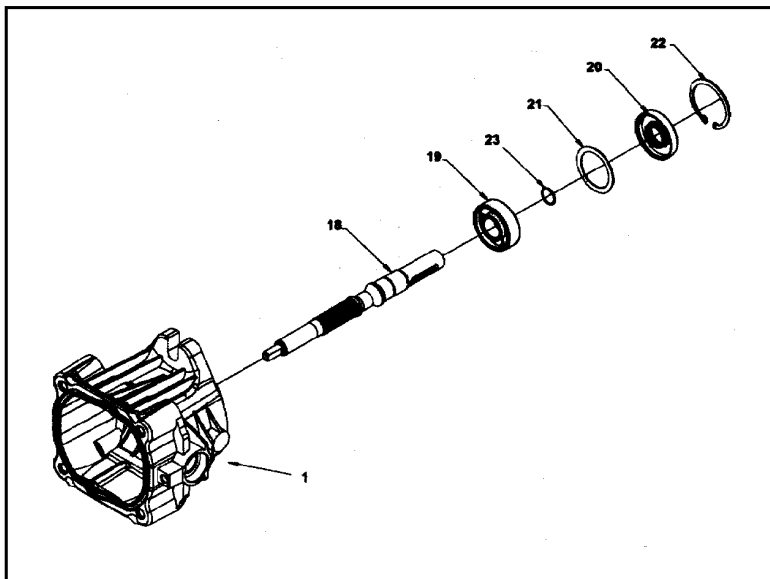

Figure 14
- 1) Install input shaft assembly (18) into the housing (1) bore. Light tapping with a rubber mallet may be necessary on the input shaft (18) once the bearing is aligned with the housing (1) bore. Rotate the input shaft (18) to insure free movement.
- 2) Install spacer (21).
- 3) Install new lip seal (20).
- 4) Install retaining ring (22). **Figure 14**